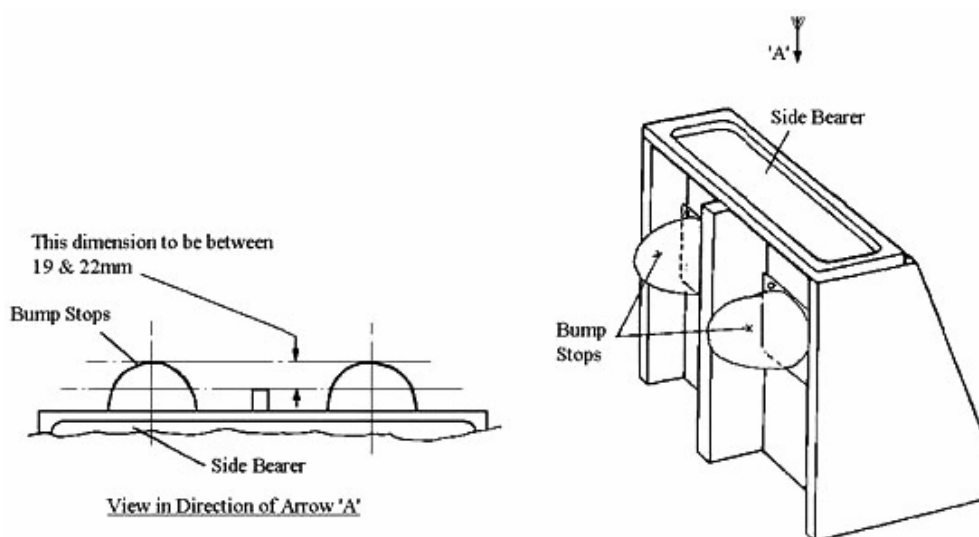

Figure 5: Lateral Bumpstop Projection
- vi) Full thread engagement plus 1mm by the nut cannot be achieved when necessary packing is applied (see item 12 below).
12. Measure lateral bumpstop projection beyond metal stop, which should be between 19 and 22mm. See Figure 5.